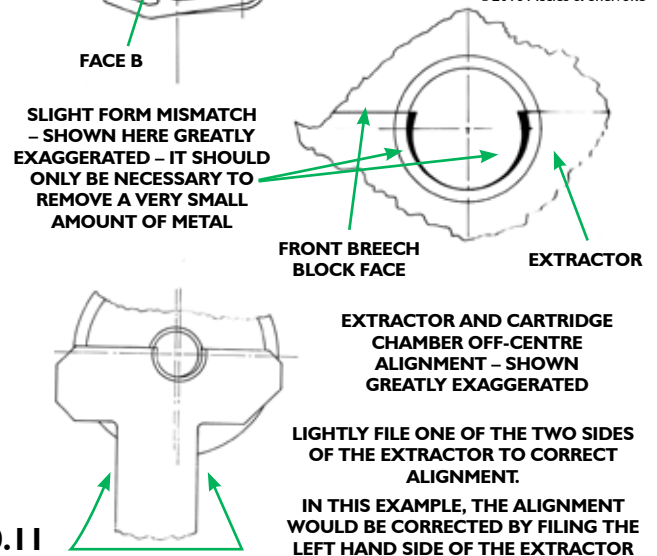

Fig. 10.11
- (b) If the chamber portion is not central to the complete form of the chamber and breech block (see Fig. 10.11), even when any side clearance has been taken up by insertion of the cartridge, lightly file one of the two sides of the extractor boss to correct the alignment.